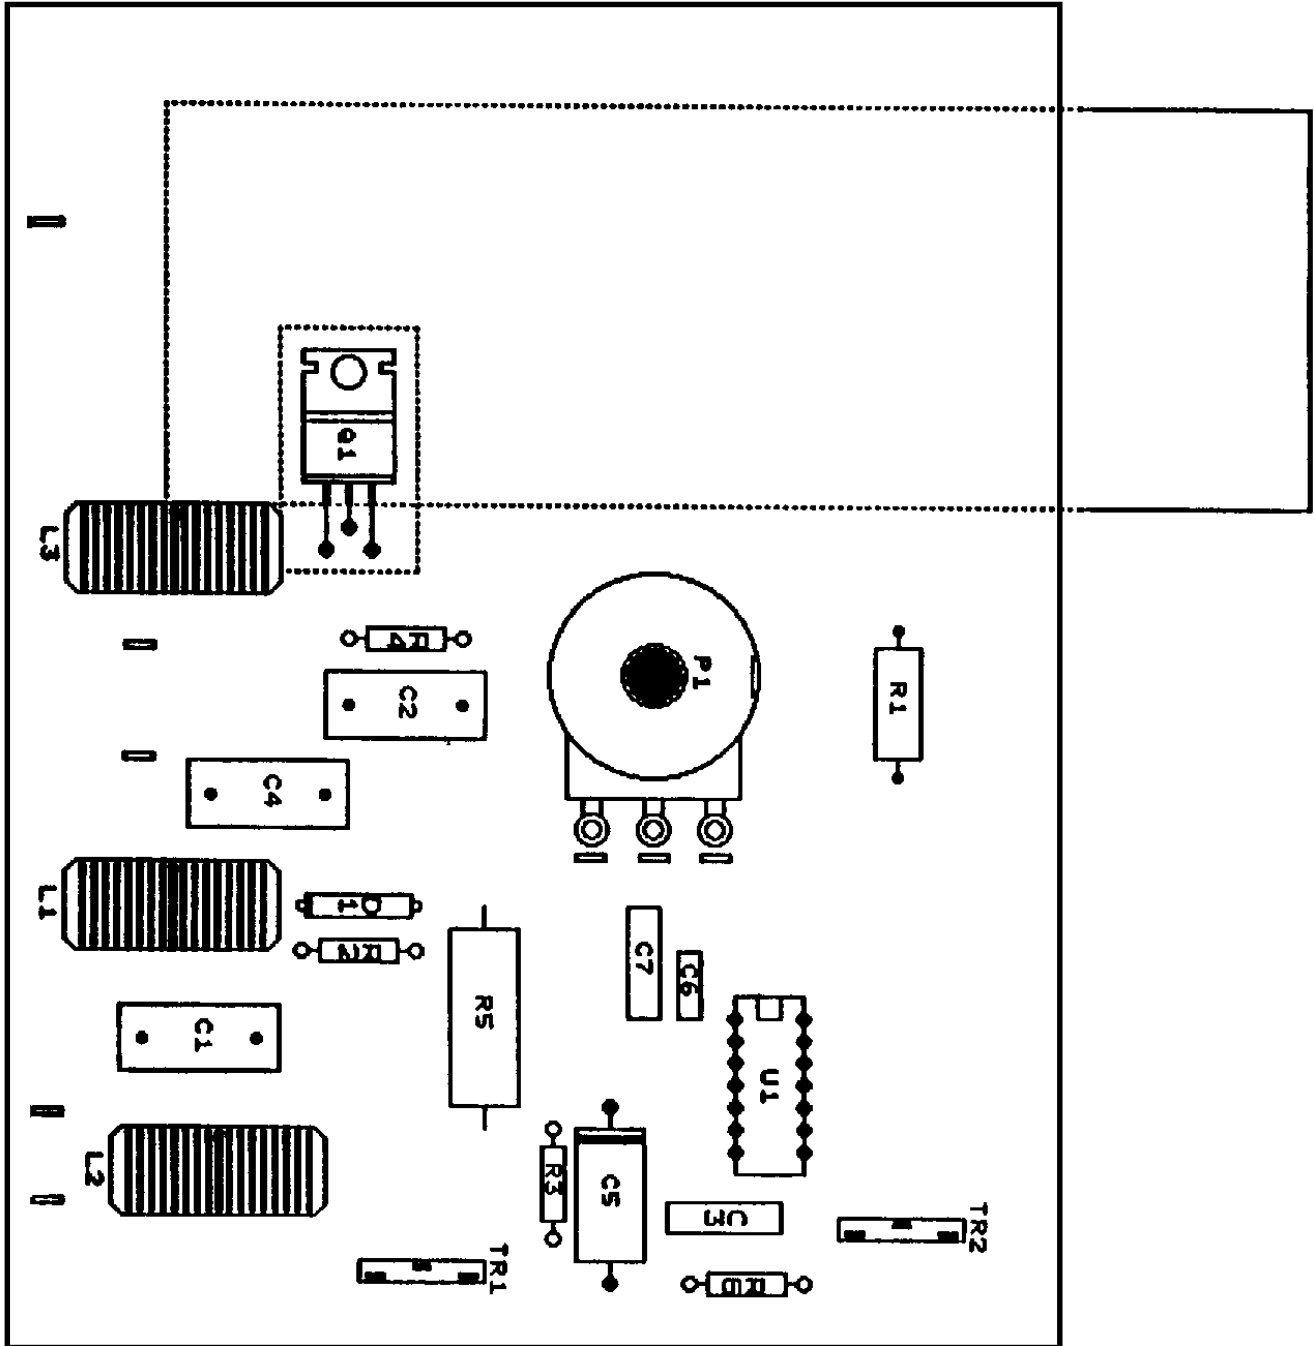

Figure 3
- ① Remove the four screws which attach the control panel to the main unit.
- ② On one end of the printed circuit board are two trim potentiometers designated as TR1 and TR2 (See Figure 3).
- ③ Set TR1 and TR2 to their mid position and turn the power switch to “ON”.
- ④ Set the speed control knob (P1) fully *counter*-clockwise (“1”) and turn TR1 clockwise until the motor just begins to turn smoothly.
- ⑤ Set the speed control knob fully *clockwise* (“6”) and adjust TR2 until the motor runs at maximum speed.
- ⑥ Replace the control panel.